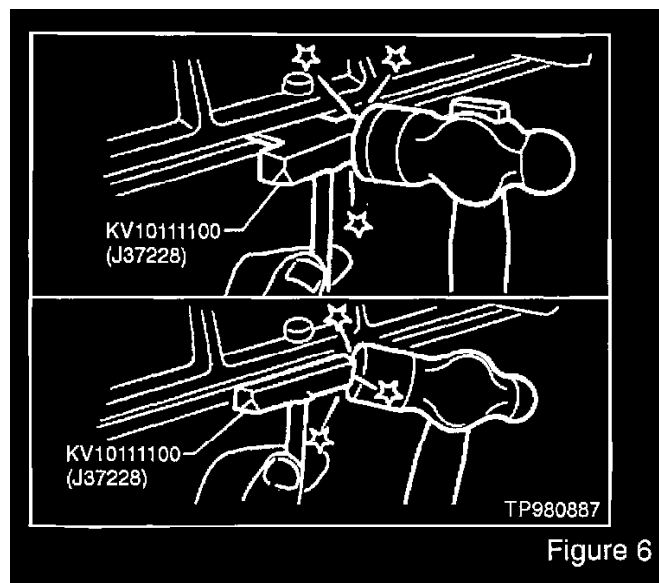

Figure 6
23. Remove the oil pan (see Figure 6).